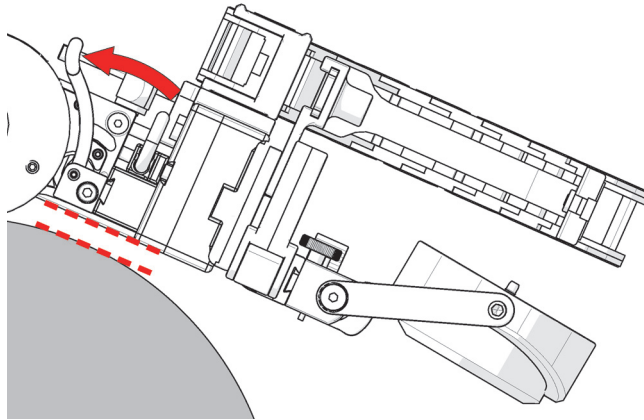

Figure 2-95 Align parallel with scan surface
7. Align the raster arm so that it is parallel with the tangent of the scan surface (see Figure 2-95 on page 118).